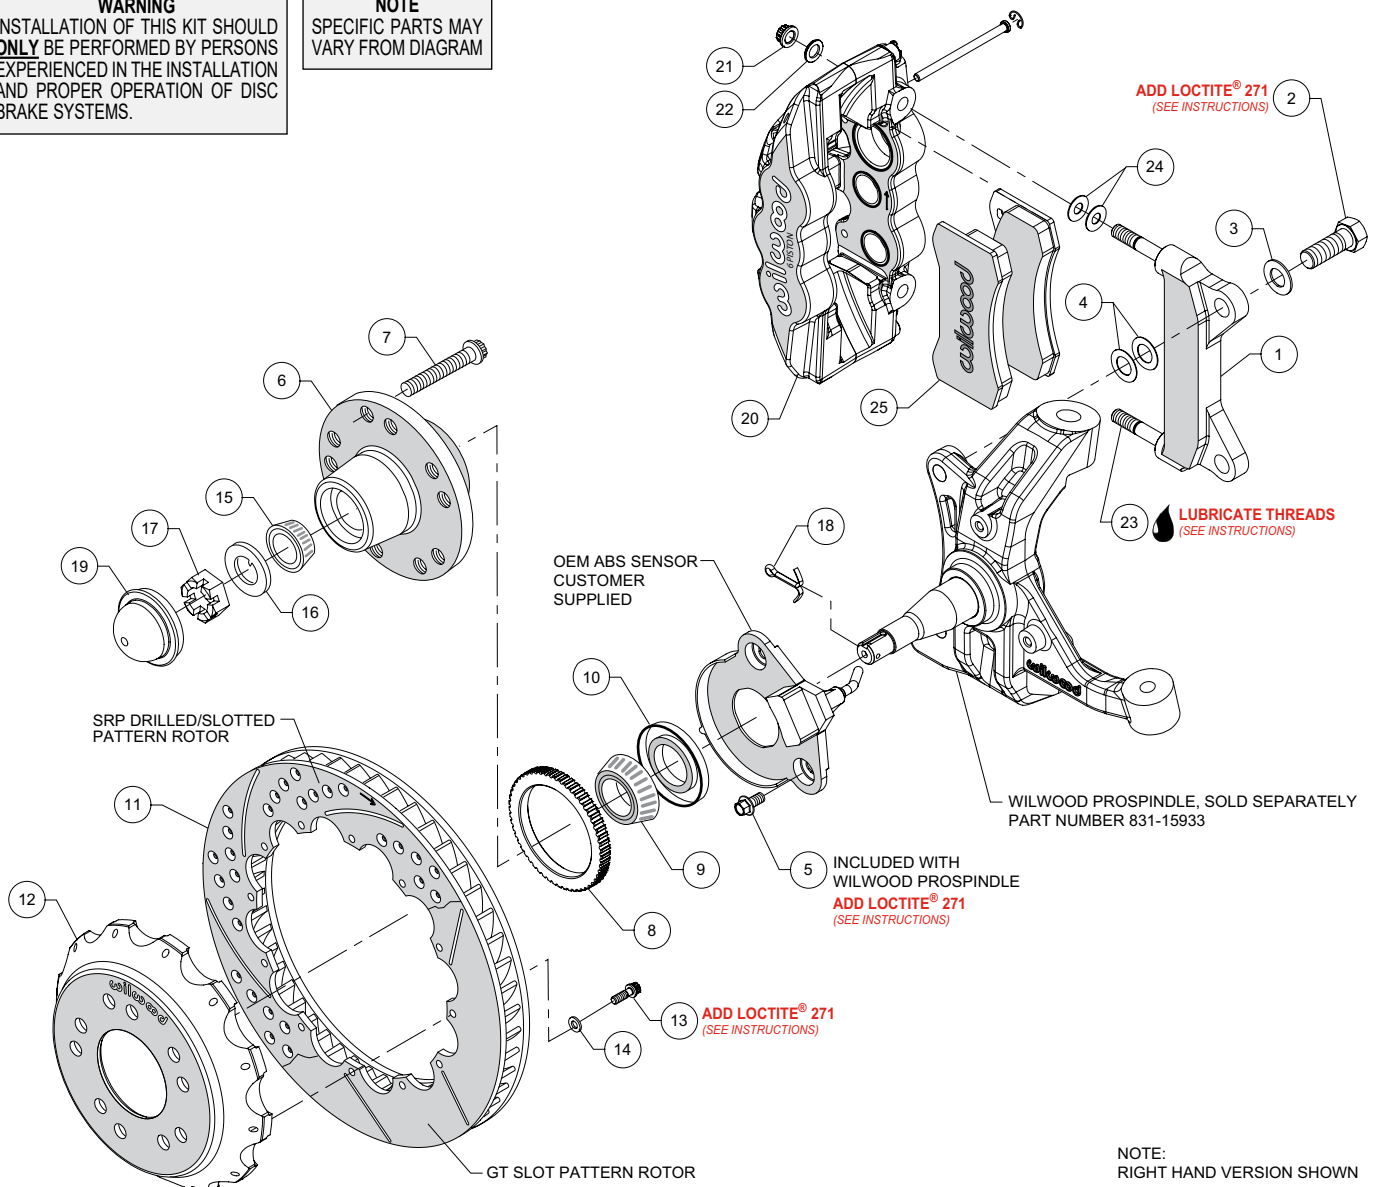
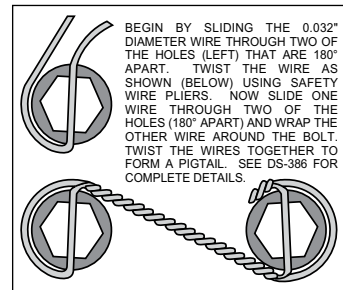

Figure 1. Typical Installation Configuration
Figure 3. Safety Wire Diagram
NOTE: Numbers in parenthesis refer to the parts list and Figure 1 on the preceding pages.
- For vehicles equipped with ABS, install the OEM ABS sensor (customer supplied) to the spindle using bolts (5) as shown in Figure 1 and Photo 3. Temporarily tighten the mounting bolts.
- The caliper mount bracket (1) should initially be installed with clean, dry threads on the mounting bolts. Orient the bracket, as shown in Figure 1 and Photo 4, and install using bolts (2) and washers (3). Initially place two .024" thick shims (4) on each bolt between the bracket and spindle, Figure 1. Temporarily tighten the mounting bolts. **NOTE: The bracket must fit squarely against the mount bosses on the spindle.** Inspect for interference from casting irregularities, machining ridges, burrs, etc. Later, after the caliper alignment has been checked, the mount bolts will be secured using red *Loctite*® 271.
- For vehicles equipped with ABS, carefully press the ABS ring (8) onto the backside of the hub (6) as shown in Figure 1 and Photo 6.
- Pack the large inner bearing cone (9) with high temperature disc brake bearing grease (available from your local auto parts store) and install into the backside of the hub (6), Photo 7.
- Install the grease seal (10) by pressing into the backside of the hub (6), flush with the end of the hub, Photo 7.
- Press the dust cap (19) into the hub (6). **NOTE: Do not hammer center of cap. Install using outer flange only.**
- Orient the rotor (11) and the hat (12) as shown in Figure 1 and Photo 9. Attach rotor to hat using bolts (13) and washers (14). Using an alternating sequence, apply red *Loctite*® 271 to the threads, and torque to 155 **in-lbs**. For an added measure of security, the bolts may be safety wired using standard 0.032 inch diameter stainless steel safety wire as shown in Figure 3. Refer to Wilwood's data sheet DS-386 (available at www.wilwood.com/Pdf/DataSheets/ds386.pdf) for complete safety wire installation instructions.
- Slide the hat/rotor (12 and 11) onto the hub (6), Photo 10. **NOTE: The hat must fit flush against the hub face or excessive rotor run out may result.** Install three lug nuts (finger tight) to keep the hat/rotor in place while continuing with the installation.
- NOTE: This kit contains distinct right and left hand calipers that must be mounted in a specific direction, as described below.** Lubricate the caliper mounting studs (23) with lightweight oil. Initially place two .030" thick shims (24) on each stud between the caliper and the bracket, as shown in Figure 1 and Photo 11. Mount the caliper (20) onto the bracket (1) using lock nuts (21) and washers (22), Figure 1. Temporarily tighten the lock nuts. Ensure that the caliper is mounted so that the largest pistons are at the rotor exit end of the caliper, in relation to the direction of rotor rotation. View the rotor through the top opening of the caliper. The rotor should be centered in the caliper, Photo 12. If not, adjust by adding or subtracting shims (4) between the bracket and the spindle. Always use the same amount of shims on each of the two mounting bolts. Once the caliper alignment is correct, remove the bracket mounting bolts one at a time, apply red *Loctite*® 271 to the threads, and torque to 140 ft-lb.
- Remove the caliper (20), then remove the two pad retaining pins from the caliper by carefully popping out the pin retaining clips and sliding out the pins. Insert the brake pads (25) into the caliper from the bottom, Figure 1 and Photo 13. With the friction material facing the rotor, secure the brake pads in place with the pad retaining pins and clips, Photo 14. Reinstall the caliper onto the caliper mounting bracket and temporarily tighten the lock nuts. Check that the top of the brake pad is flush with the outside diameter of the rotor, Photo 15. If not, adjust by adding or subtracting shims (24) between the caliper (20) and the bracket (1). After the caliper pad height is set, torque the caliper lock nuts (21) to 47 ft-lb.